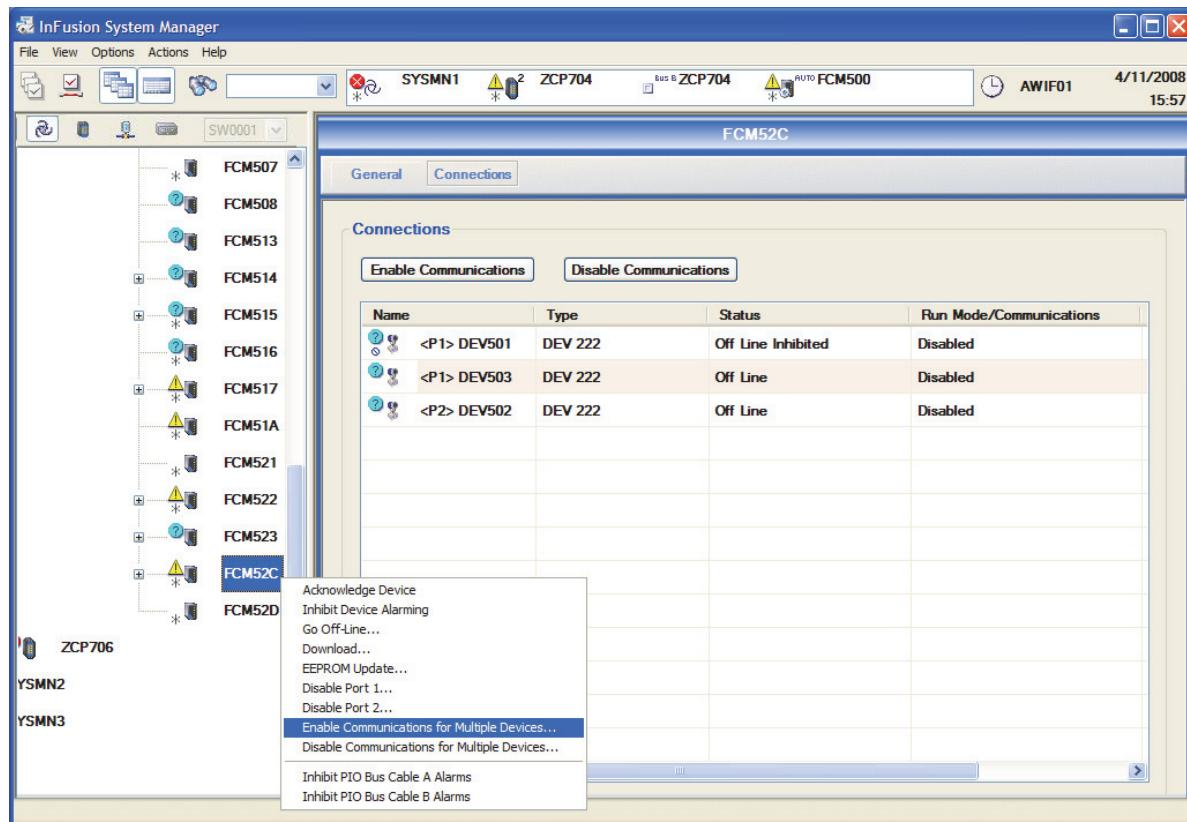

Figure 8-13. Enable/Disable Communications for Multiple Devices (via FBM Context Menu)
- b. From the FBM's context menu (as shown in Figure 8-13):